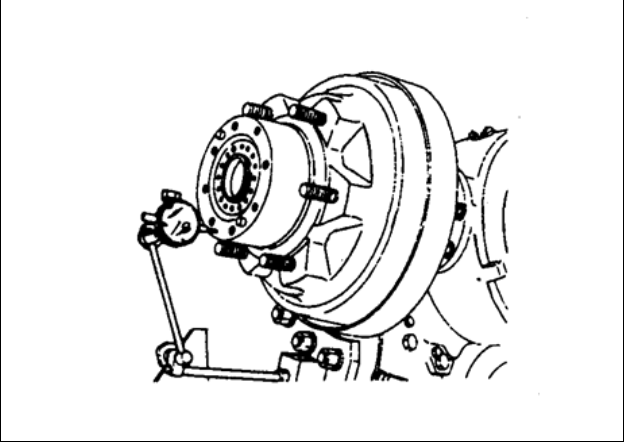

Fig.3-9
- (8) Measure axial play of wheel hub to see if it is within specification. Axial play should be less than 0.10mm (refer to Fig.3-9).